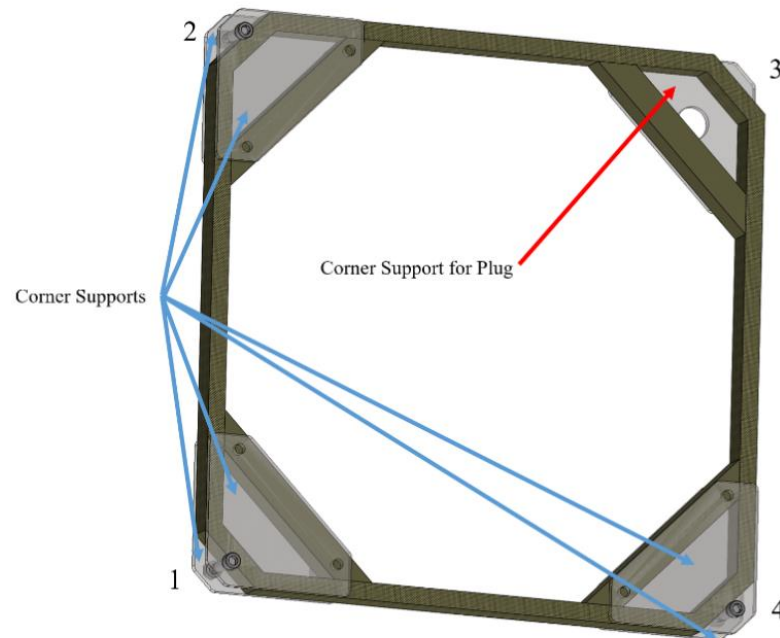

Figure 6.1
2. Epoxy the Corner Supports (PN THBC005) and the Corner Support for Plug (PN THBC006) to the Small Coil. Corners 1, 2, and 4 as shown in Figure 6.1 will each have two Corner Supports (THBC005) epoxied to them, while corner three will have the one Corner Support for Plug (THBC006) epoxied to it. One 2" 3/8"-16 bolt (PN OUTS002) and one 3/8"-16 nut (PN OUTS004) will be used to secure each outside corner of the two Corner Supports epoxied to each other for corners 1, 2, and 4. Corner 3 will only have the Corner Support for Plug epoxied to it as shown in Figure 6.1. Ensure that the Coil Support for Plug is epoxied to the back of the coil as it is shown in the configuration below, with the bolt heads being on the opposite side of the coil from the Corner Support for Plug. When the Corner Support for Plug is bolted in later in the process, the nuts should be resting on its surface.